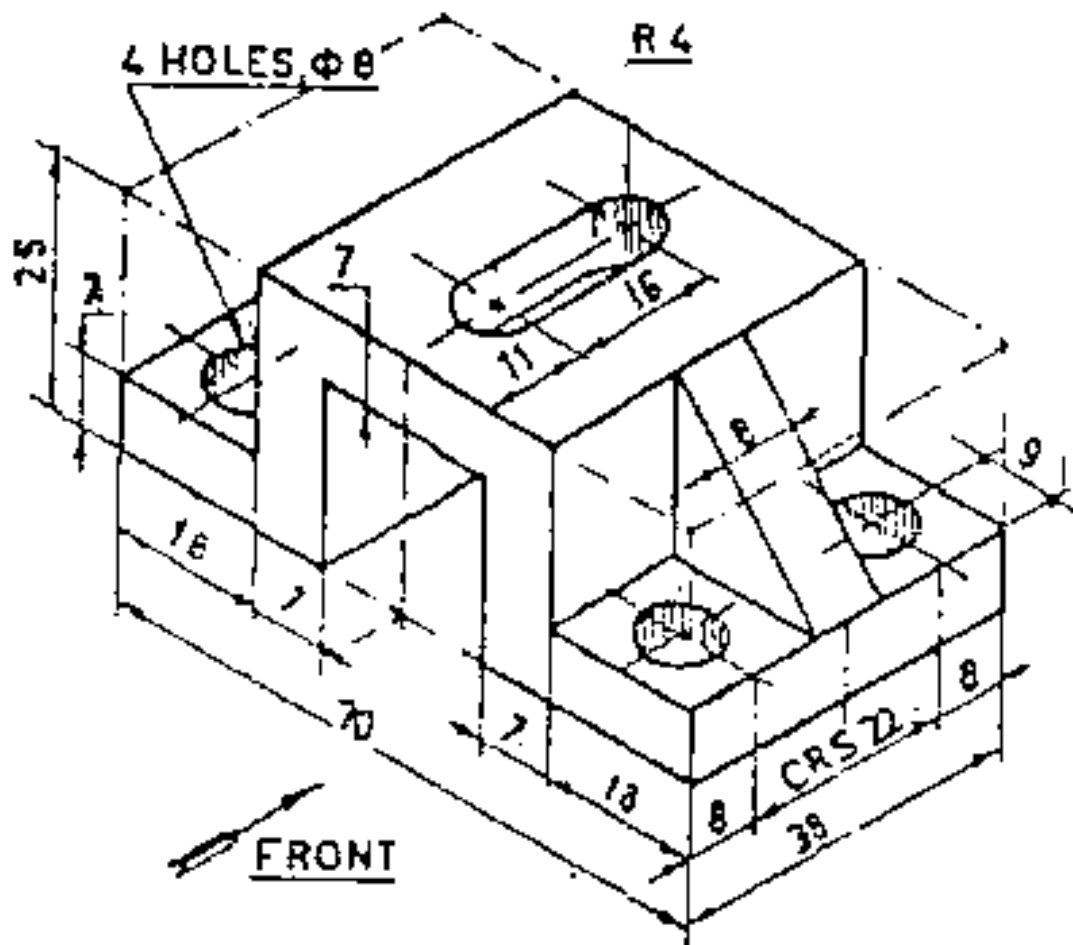

Figure 1
1. Draw the following View for **Figure 1**